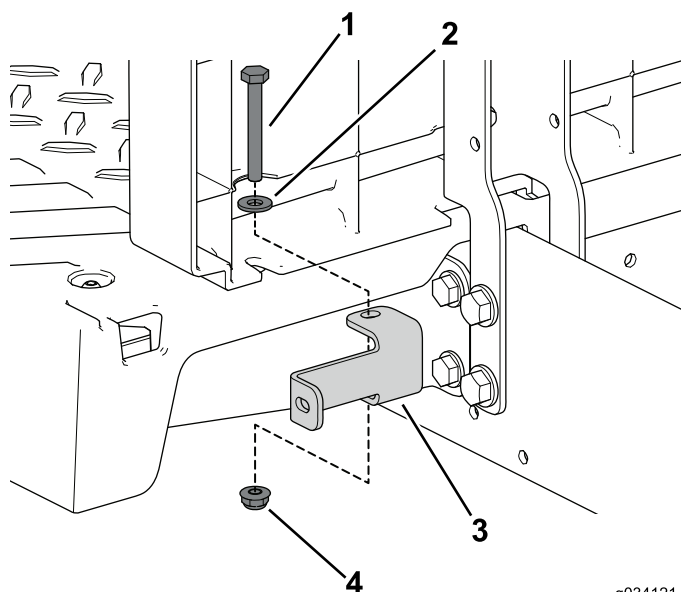

Figure 41
6. Use the 2 bolts (1/4 x 2 inches), washer, and locknut to secure the left and right panel bracket the machine (Figure 41).
7. Use the 2 bolts (1/4 x 2 inches), washer, and locknut to secure the left and right panel bracket the machine (Figure 41).